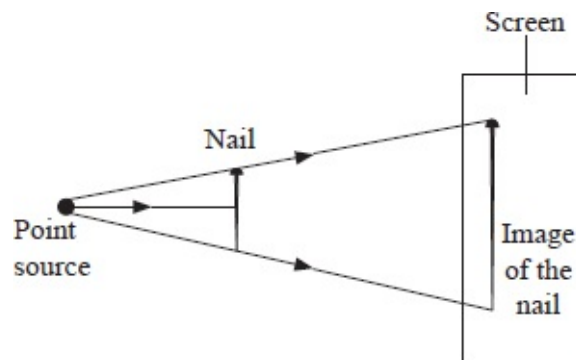

Fig. 8.5: Shadow formation by a point source
- Place a white screen behind the obstacle as in figure 8.5. Observe what happens.